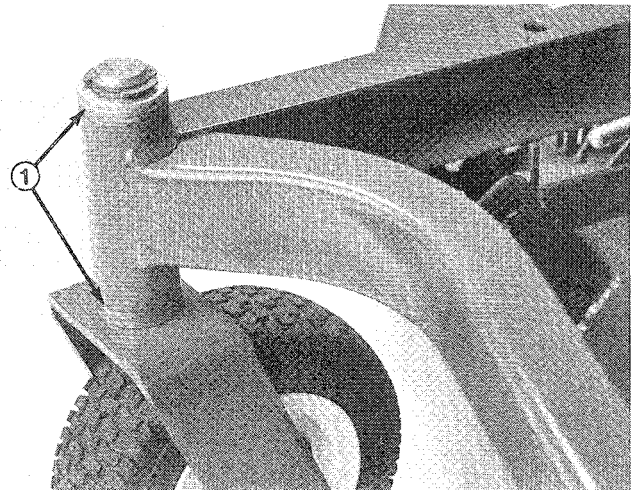

Figure 7
4. Insert pin punch into top or bottom of mounting tube and drive bushing out of tube (Fig. 7).